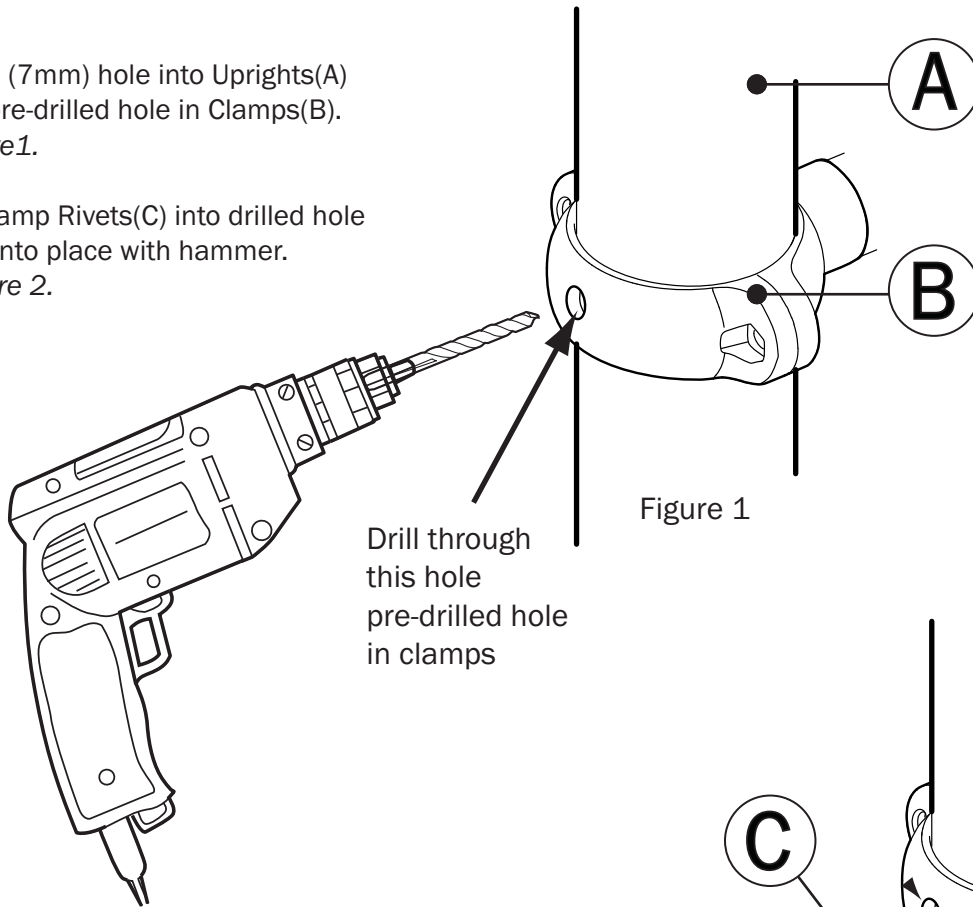

Figure 1
1. Insert Bongos Bracket(A) into socket of Bongos Clamp(B) and secure with Bolt(E) and Barrel Nut(F). See *Figure 1*.
2. Insert (2) Bolts(G) and (2) Flat Washers(H) into holes in Mounting Bar(C), through holes in flange of Bongos(D), through holes in Bongos Bracket(A) and secure with (2) Flat Washers(H) and (2) Lock Nuts(I).
1. Lower Roof(A) onto Uprights.
2. Centered horizontally with Upright, measure 1"(25mm) up from bottom of Roof(A) and drill 1/8" pilot hole through Roof and into Upright. See Figure 1.
3. Secure Roof(A) to Uprights with (4) Self-tapping Screws(B). See Figure 1.
4. Repeat Steps 2 and 3 for remaining (3) Self-tapping Screws(B).
1. Drill 1/4" (7mm) hole into Uprights(A) through pre-drilled hole in Clamps(B). See Figure 1.